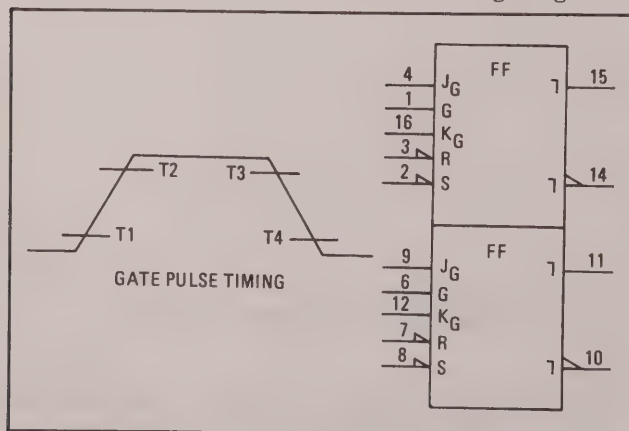

Figure 8-6. Dual J-K Master/Slave Flip-Flop and Gate Pulse Timing
8-36. Dual J-K Master/Slave Flip-Flop. The dual J-K Master/Slave Flip-Flop shown in Figure 8-6 consists of two independent J-K flip-flops. Inputs to the master section is controlled by the gate (G)